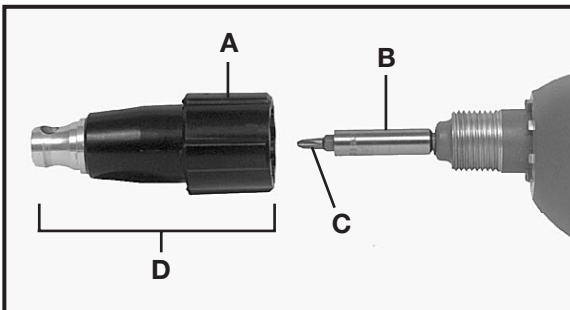

Fig. 2
2. While holding locking collar (A) Fig. 2, forward away from power unit, unscrew depth stop assembly and remove.
3. Pull bit holder (B) Fig. 2, with bit straight out. If it is difficult to remove, grip with pliers and pull. **NOTE:** Bit (C) Fig. 2, may be removed from bit holder by pulling straight out.
5. Screw on depth stop assembly (D) Fig. 2, and readjust (see TO ADJUST DEPTH STOP).